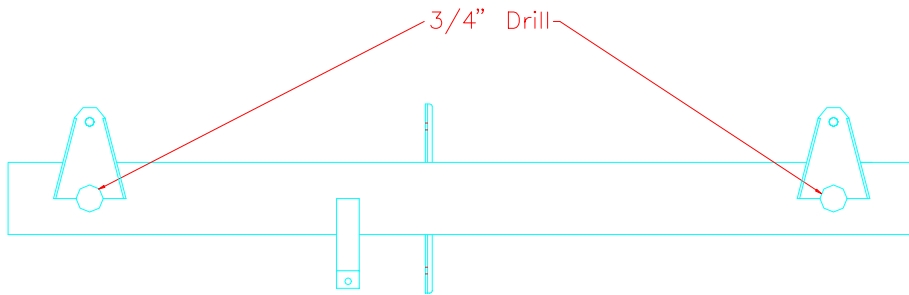

Figure 15.3.1
- 1) Drill two 3/4" holes through the control column (CC-35). Figure 15.3.1. Use a grinder to do this or a series of small holes and file out the hole.